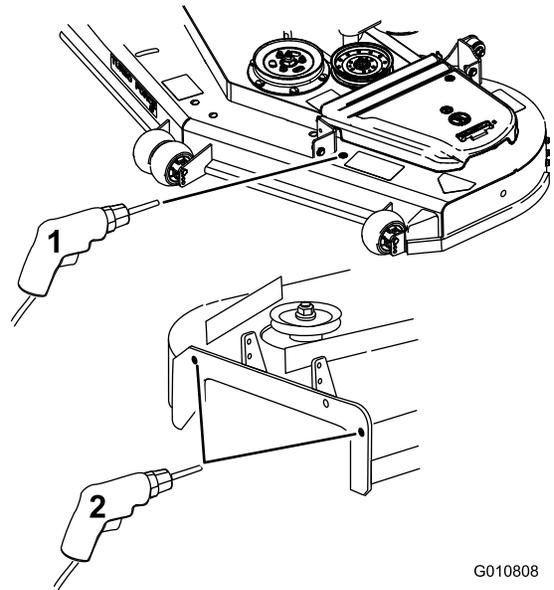

Figure 6
1. Check the hole diameters in the locations shown in Figure 6.
2. Drill the holes to the specified diameter in the locations shown in Figure 6.